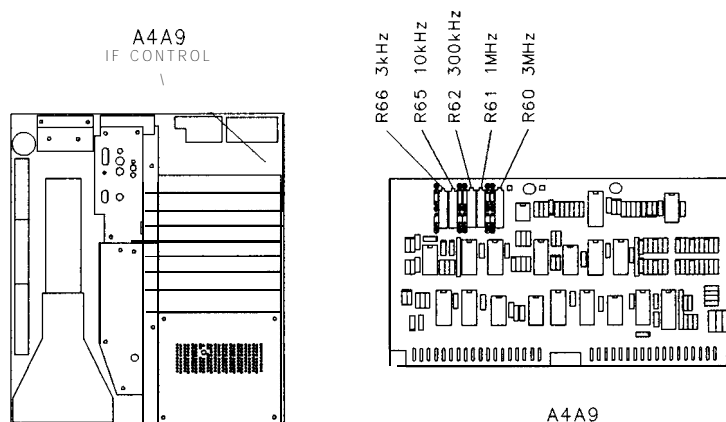

Figure 4-8. Location of Bandwidth Adjustments
8. Adjust **A4A9R60** 3 MHz for MKR 1a] indication of 1.5 MHz while maintaining the marker at 0.430 X using the DATA knob. Refer to Figure 4-8 for the adjustment location.
14. Adjust A4A9R61 1 MHz for MKR A indication of 500 kHz while maintaining the marker at 0.430 X using the DATA knob. Refer to Figure 4-8 for the adjustment location.
20. Adjust A4A9R62 300 kHz for MKR A indication of 150 kHz while maintaining marker at 0.430 X using the data knob. Refer to Figure 4-8 for location of adjustment.
26. Adjust **A4A9R65** 10 kHz for MKR A indication of 5.00 kHz while maintaining the marker at 0.430 X using the DATA knob. Refer to Figure 4-8 for the adjustment location.
32. Adjust **A4A9R66** 3 kHz for MKR A indication of 1.5 kHz while maintaining the marker at 0.430 X using the DATA knob. Refer to Figure 4-8 for the adjustment location.